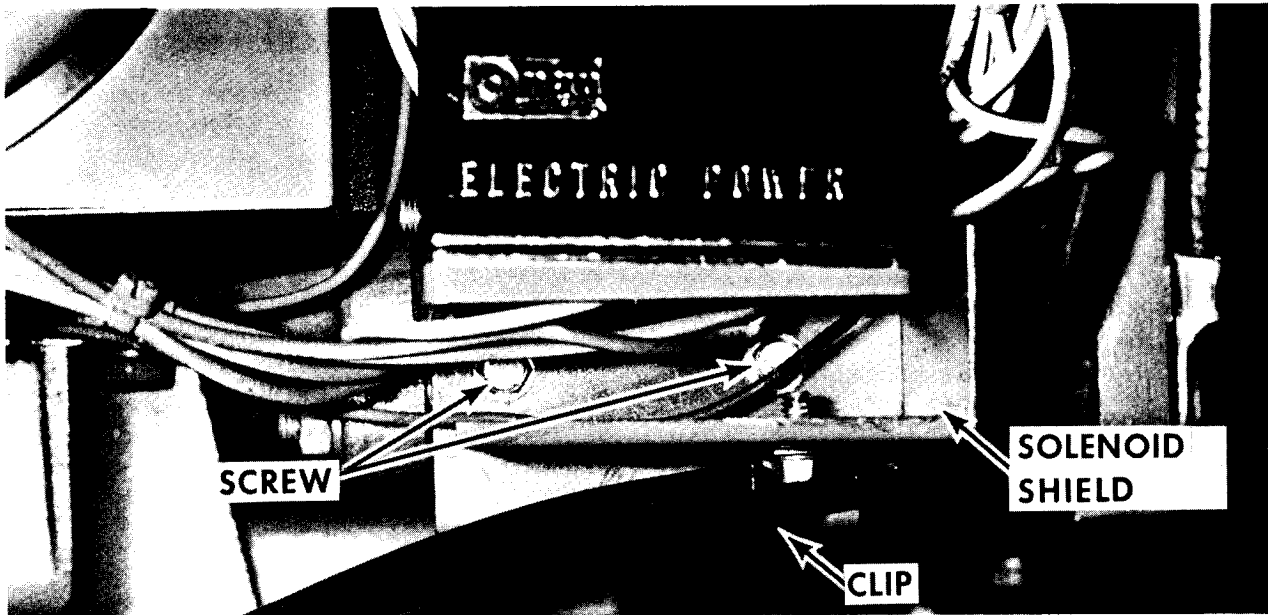
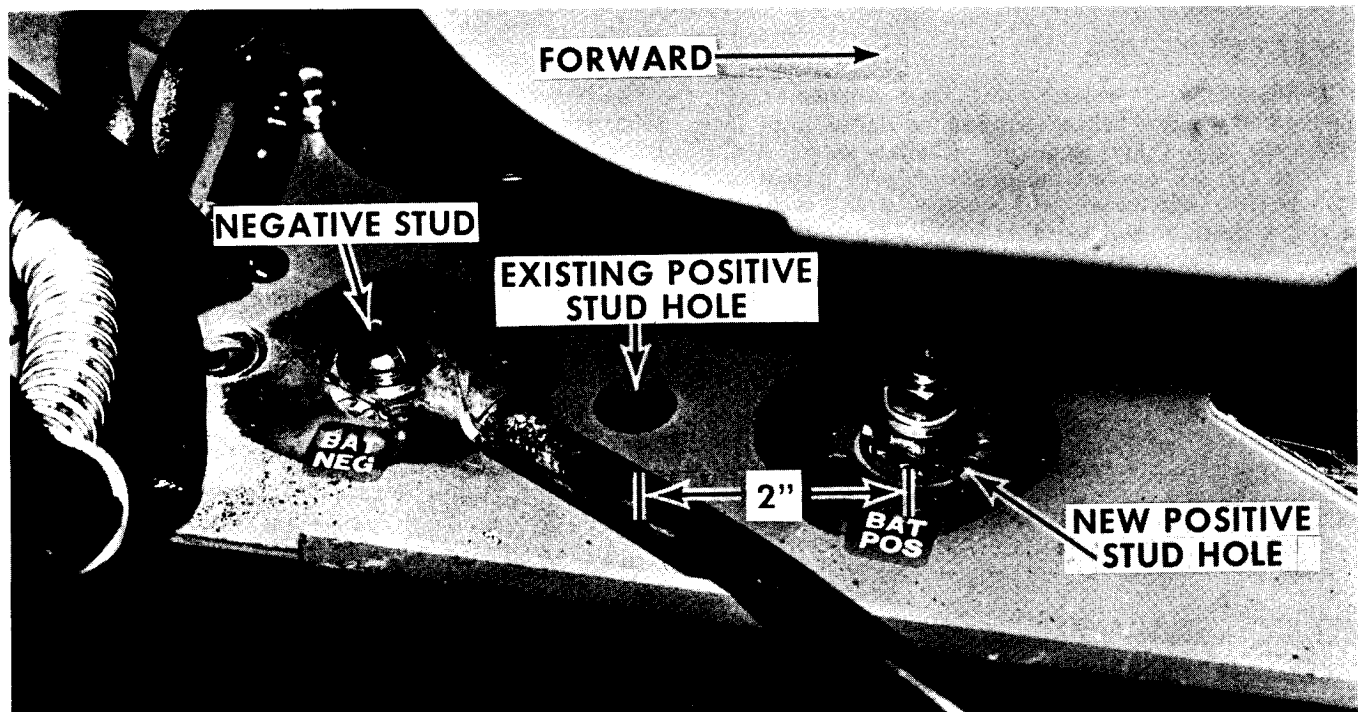

Figure 1
Figure 2
4. Insert finger into companion flange and feel for presence of slotted nut and cotter pin (Figure 2).
4. Remove two screws located under the control board. (Refer to Figure 1).
5. Position solenoid shield as shown in Figure 2, and install retaining screws. The control panel ground wire must be properly secured at this time. Secure starter cable with clip as shown in Figure 1.
7. Disconnect positive battery stud located at back of mounting pan (Refer to Figure 2).
8. Drill a 5/8" hole located two inches forward of existing hole as shown in Figure 2.